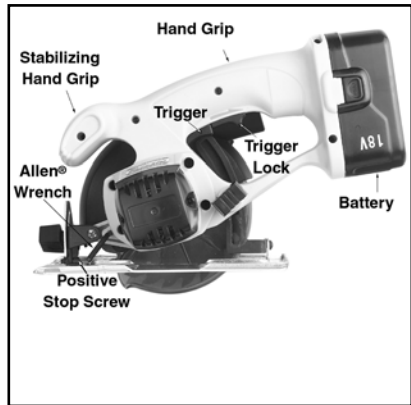

Fig 5. Handle side view.
From Figure 5:
7. The arrow in **Fig.5** is pointing to a screw that operates as a positive 90° stop. It is secured with a jam nut. Loosen the nut and turn the screw so that its contacts the base. *Do Not over tighten.* Over tightening this screw will cause the saw base to warp and will upset the angle of the blade.